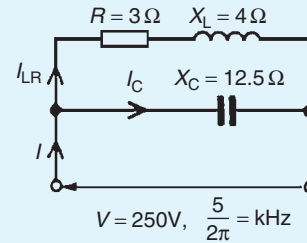

Figure 16.22
10. The following statements, taken correct to 2 significant figures, refer to the circuit shown in Fig. 16.22. Which are false?